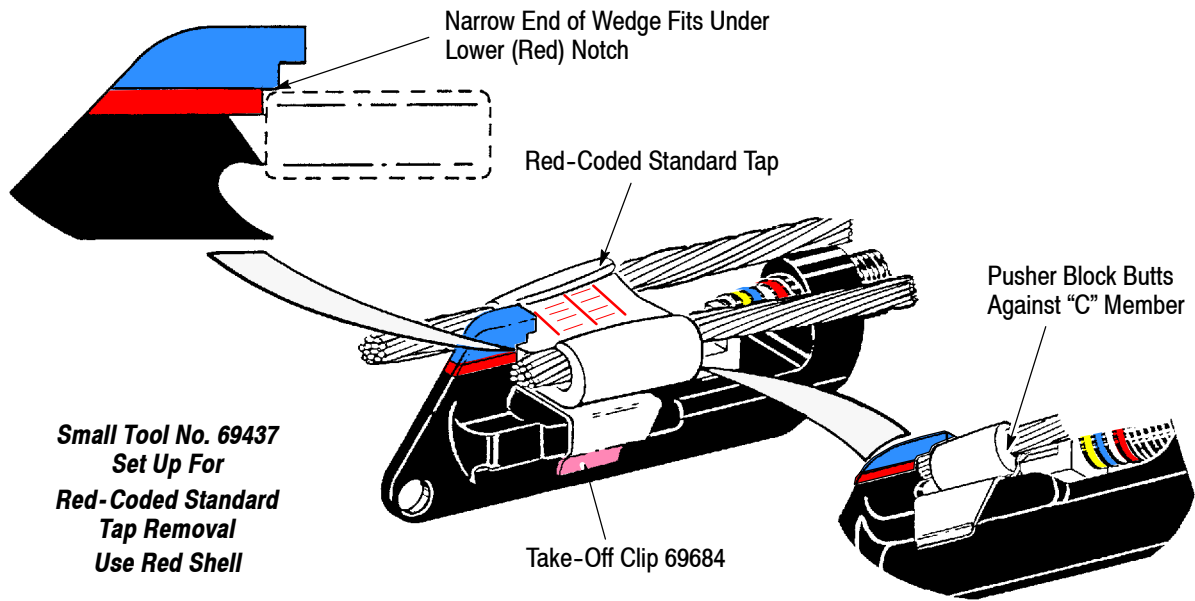

Figure 32
3. Hook head of tool over small end of tapered “C” member of tap or stirrup, with OPEN SIDE OF “C” MEMBER FACING AWAY FROM TOOL PLATFORM. See Figures 32 through 35. Ensure that narrow end of wedge fits under correct notch in tool and that pusher block of take-off clip is properly positioned as follows:
Red-Coded Taps -- Be sure narrow end of wedge fits under the lower (red) notch of the small tool. Be sure the pusher block butts against the “C” member. See Figure 32.